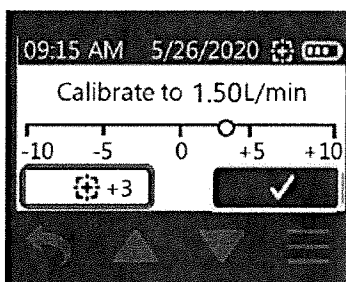

Figure 14. Accept Button
5. The calibration adjustment value will display beside the calibration icon. The flow rate on the ALICAT flowmeter will change because of this adjustment. When the method-specified flow rate (1.5 L/min) is reached, touch the check mark to accept the calibration adjustment value and return to the Flow Menu (Figure 14).